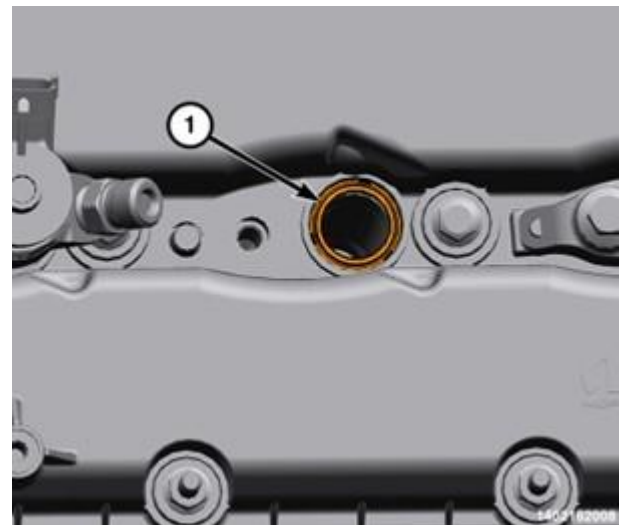

Figure 145 – Upper Sealing Washer
91. Install a **NEW** fuel injector seal (1) in the cylinder head cover (Figure 145).